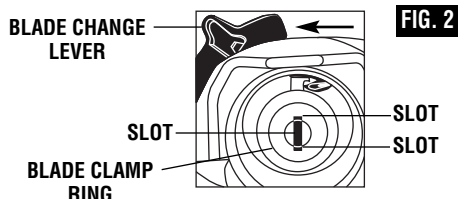

FIG. 2
1. Pull the blade change lever to the point that the slots on the blade clamp's ring line up with the slot in the center of the clamp (Fig. 2).